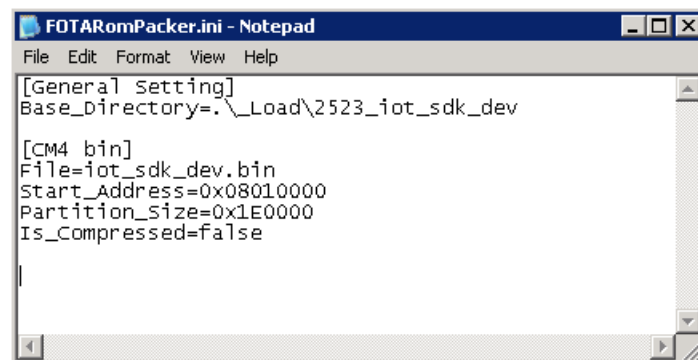

Figure 3. FOTARomPacker.ini FOTA configuration file content
- Set the load path to the line below [General Setting] (see Figure 3).